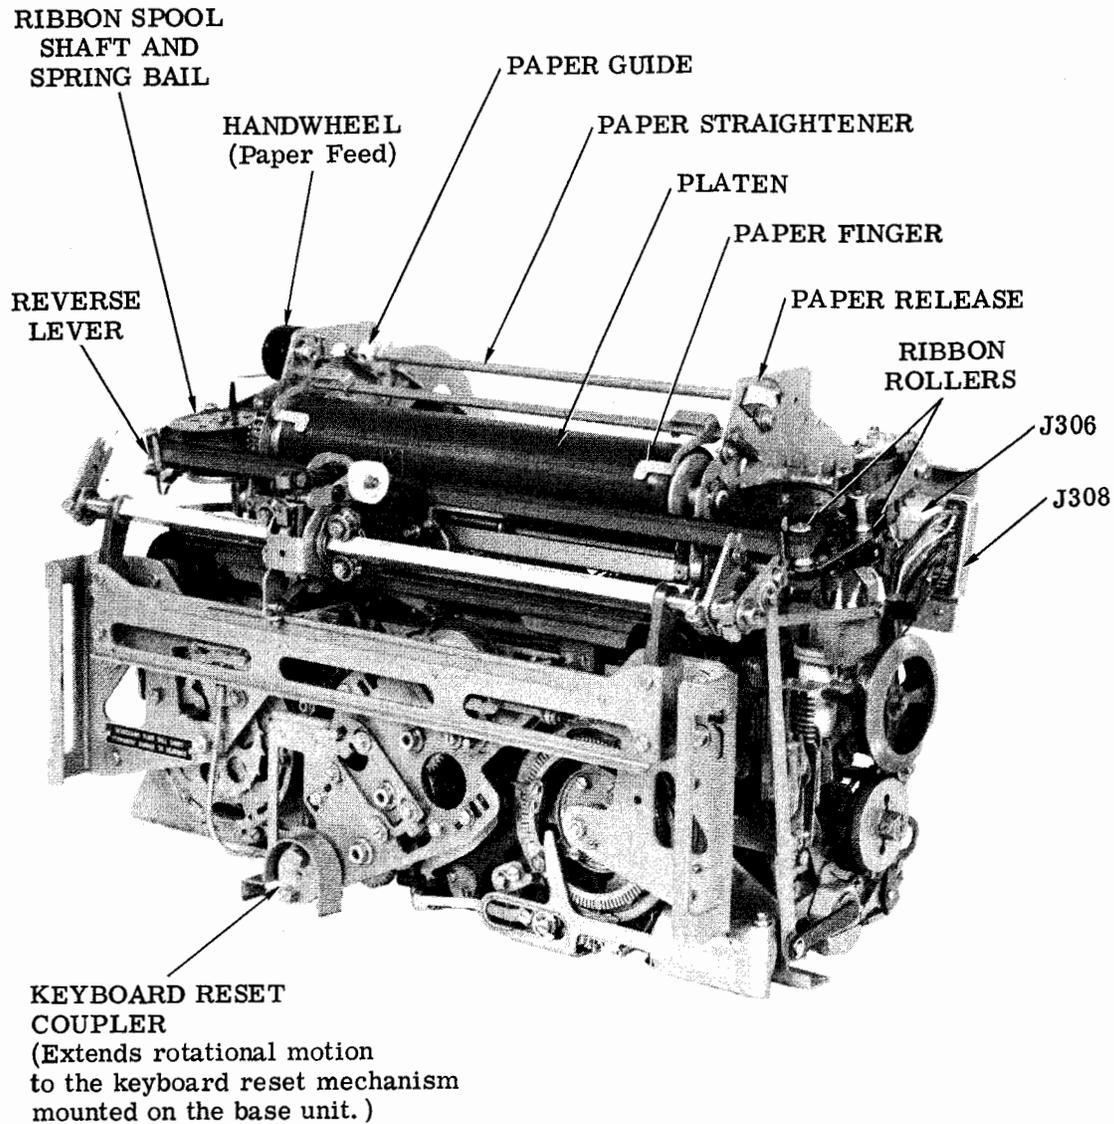

Figure 6 - 37 Typing Unit
2.09 Unpack the typing unit (Figure 6) from its carton and remove all packing materials. Remove the shipping pallet from the base. Remove the wire retainer that secures the print hammer assembly. Check the feed pawls and ratchet wheel for packing detail. If detail is present, remove it when moving the print hammer assembly toward the left.
4.11 Locate the selector clutch on the right end of the typing unit main shaft and the keyboard reset coupler (Figure 6) at the lower center front. Facing the right end of the typing unit, rotate the selector clutch drum in a counterclockwise direction until the lugs on the keyboard reset coupler are vertical.
4.12 Viewing the keyboard reset mechanism from the right side of the keyboard, rotate the mechanical reset shaft in a clockwise direction until the open slots, in the plastic universal joint member, are vertical to receive the lugs on the typing unit (Figures 6 and 11) keyboard reset coupler.
reel out enough ribbon to reach the empty spool and for three turns on the spool. Refer to Figures 6 and 18 and perform the following routing procedure.